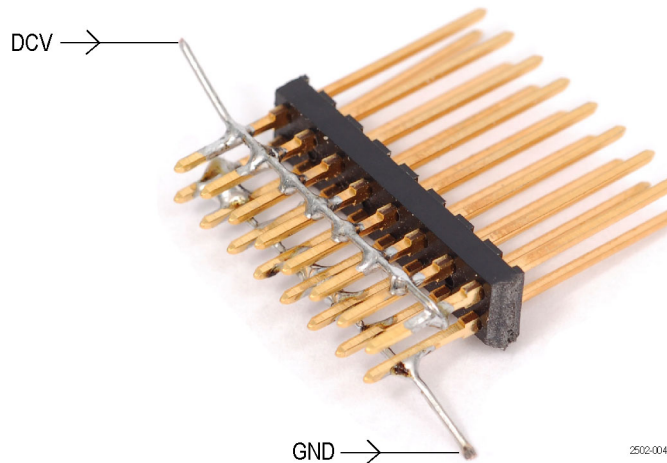

Figure 1: Threshold Accuracy test fixture
1. Set the square-pin strip down and lay a wire across one row of pins on one side of the insulator as shown. Leave some extra wire at one end for connecting to a test lead. (See Figure 1.)